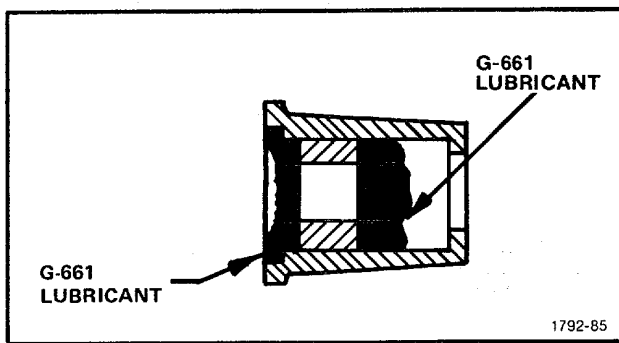

Figure 5-32. Lubrication of ZERO REFERENCE knob.
**28. Installation of the ZERO REFERENCE knob and the zero reference CHECK pushbutton (see Figs. 5-32 and 5-33)**
- 1. Apply G-661 lubricant to the ZERO REFERENCE knob as shown in Fig. 5-32.